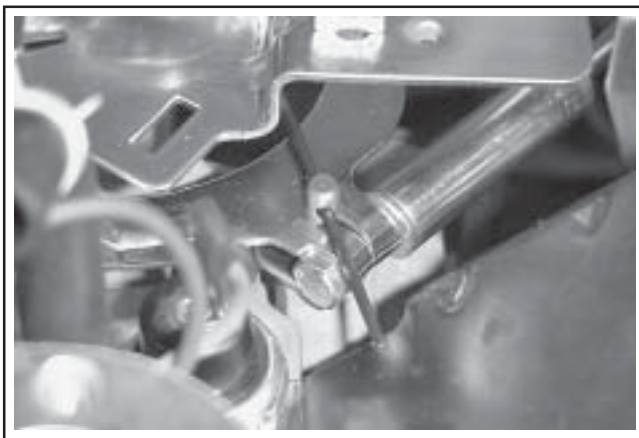

Figure 5B-39. Adjusting Governor Shaft.
5. Reconnect the dampening spring into its governor lever hole from the bottom. Reinstall the bushing and reattach the throttle linkage. See Figure 5B-34. Reattach the governor spring in the marked hole.